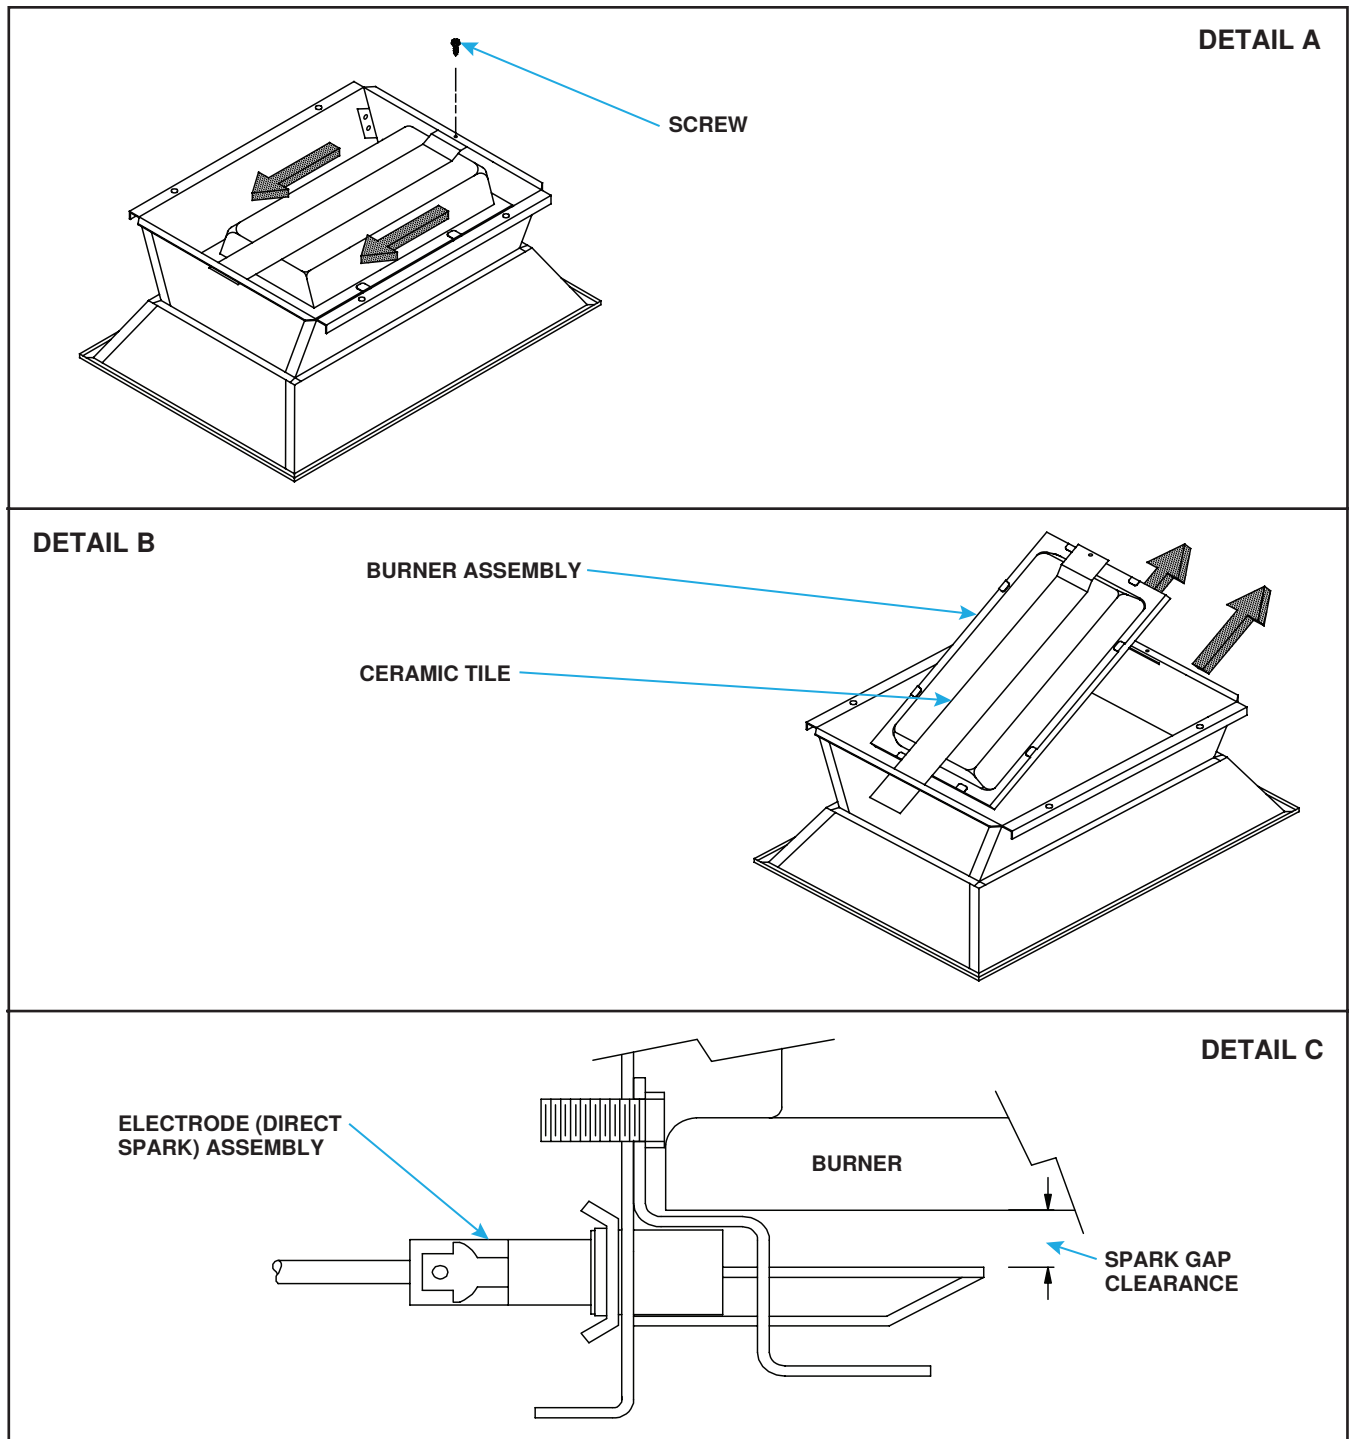

Figure 12. Burner Replacement
1. Remove screw and slide burner assembly backward (see Figure 12, DETAIL A).
2. Pull burner assembly up and outward (see Figure 12, DETAIL B).
3. Check to ensure that there is spark gap clearance of $7/32$ ($\pm 1/32$) inch (5.58 (± 0.81) mm) from ceramic tile surface to the sparking tips of electrode (direct spark) assembly (see Figure 12, DETAIL C).